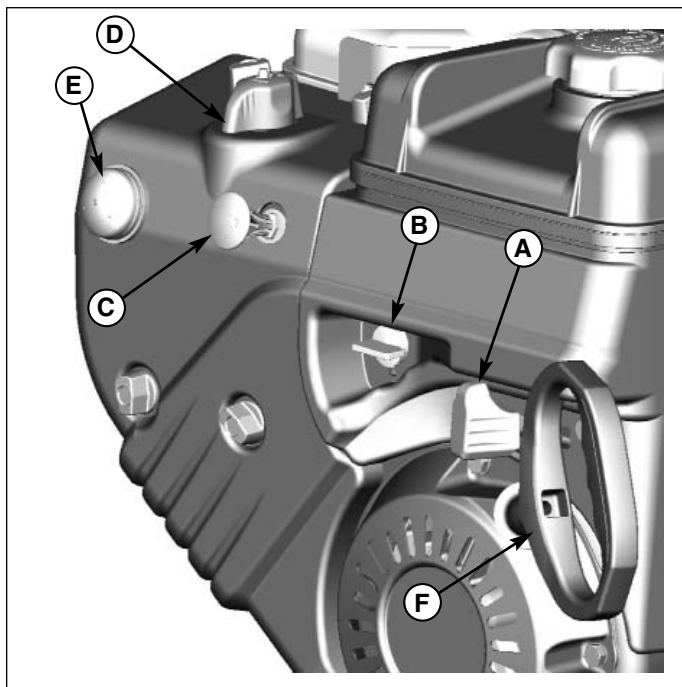

Figure 3. Engine Start/Stop
Or move the throttle control lever (A, Figure 3), if equipped, to the FAST position. Operate the engine with the throttle control lever in the FAST position.
4. Turn the fuel shut-off valve (B, Figure 3), if equipped, to the ON position.
5. Push in the safety key (C).
6. Turn the choke control knob (D) to the choke position.
Or move the throttle control lever (A, Figure 3), if equipped, to SLOW and then to the STOP position.